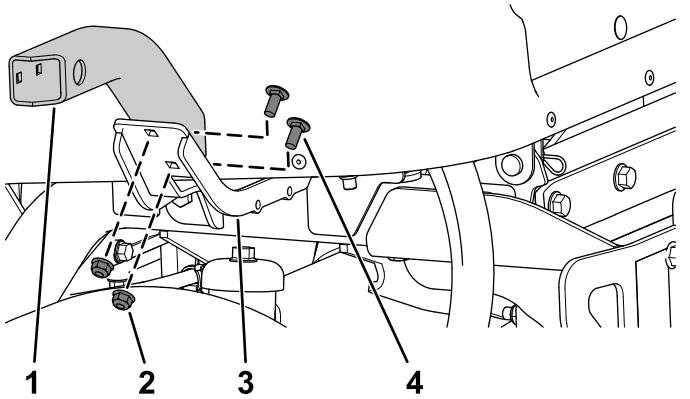

Figure 24
- Secure the left short mount and right short mount to the left mount and right mount using 4 carriage bolts (5/16 x 3/4 inch) and 4 flange nuts (5/16 inch) as shown in Figure 24.